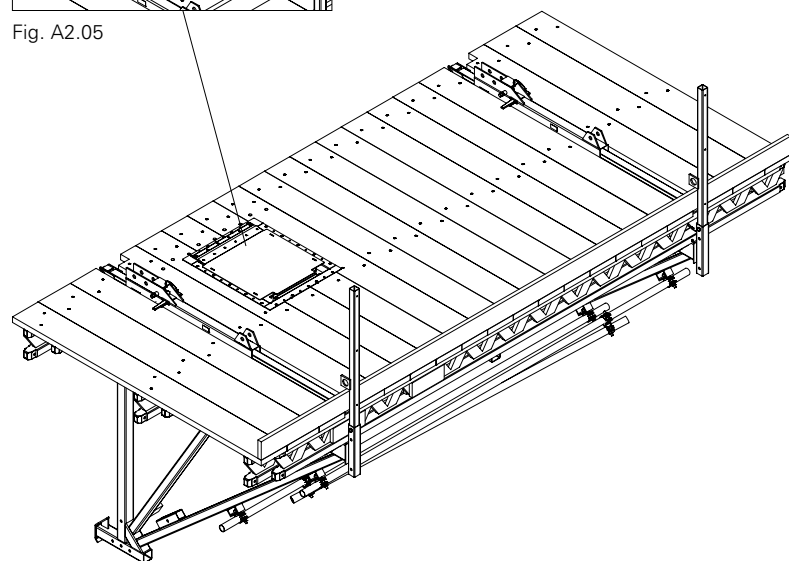

Fig. A2.06
- Attach hatch frame to the planking (approx. 20 x TORX 6 x 40). (Fig. A2.06)